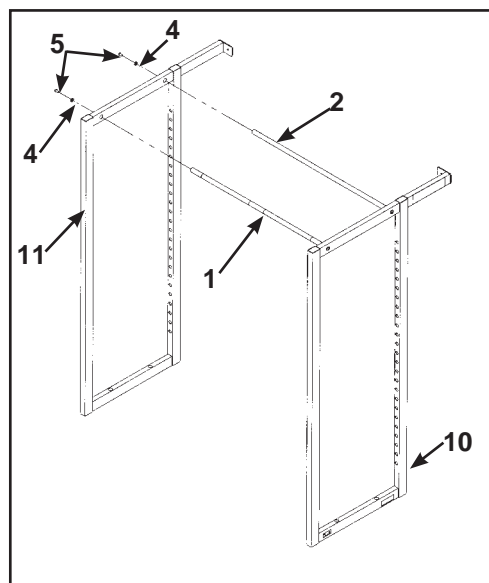

Figure 6
- D. Repeat Steps 4B and 4C to attach other side. See Figure 6.